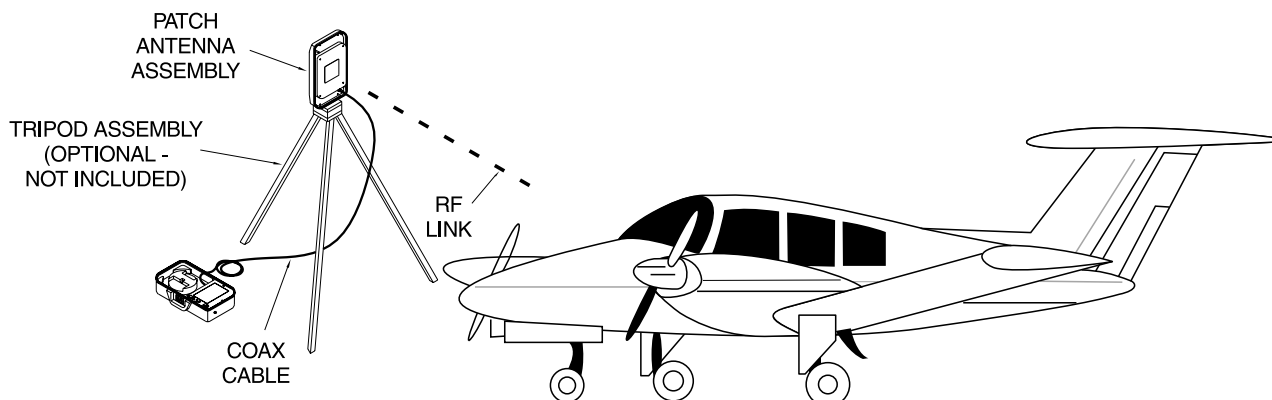

Figure 3-4. Typical Patch Antenna Tripod Mount
- b. Mount the chassis lid, with the Patch Antenna facing the aircraft, onto a tripod (not included). The tripod must be capable of holding the antenna (approximately 2.5 lb) and must provide a standard base mounting stud threaded 1/4"-20. A typical tripod mount is shown in figure 3-4.